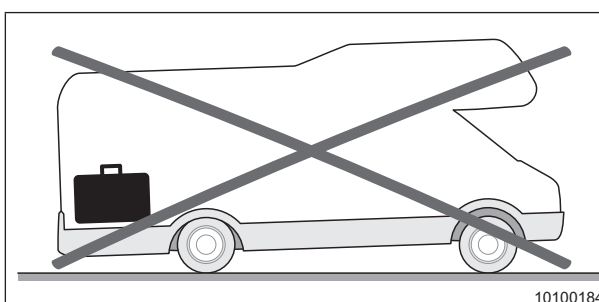

Fig. 1 Motorhome loaded incorrectly
- Do not stow heavy objects as shown (Fig. 1).